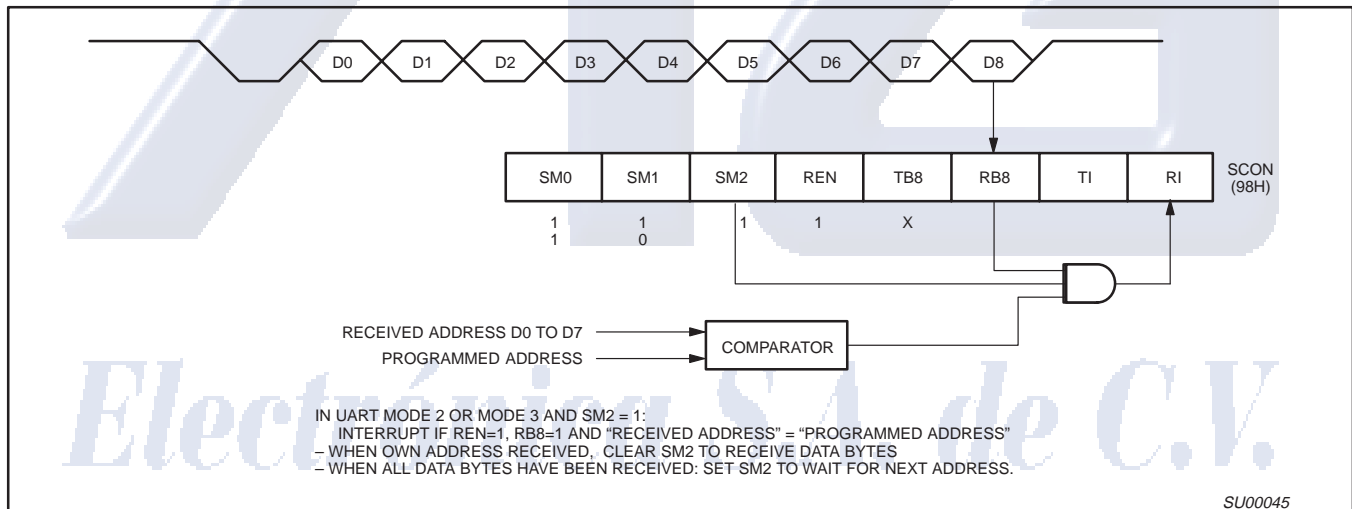

Figure 20. UART Multiprocessor Communication, Automatic Address Recognition
Automatic Address Recognition is a feature which allows the UART to recognize certain addresses in the serial bit stream by using hardware to make the comparisons. This feature saves a great deal of software overhead by eliminating the need for the software to examine every serial address which passes by the serial port. This feature is enabled by setting the SM2 bit in SCON. In the 9 bit UART modes, mode 2 and mode 3, the Receive Interrupt flag (RI) will be automatically set when the received byte contains either the "Given" address or the "Broadcast" address. The 9 bit mode requires that the 9th information bit is a 1 to indicate that the received information is an address and not data. Automatic address recognition is shown in Figure 20.